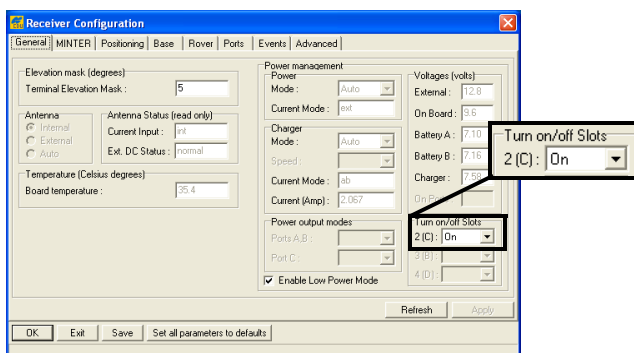

Figure 2-11. Select Power Output Modes – Ports and Slots
5. Select the *Turn on/off Slots* drop-down list to set power output on internal slots (Figure 2-11).